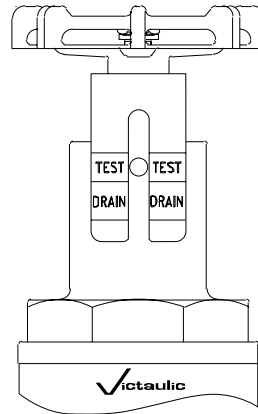

Figure 2
2. Open the valve to the “test” position by turning the handle counterclockwise until the yellow indicator pin is within the green “test” area, as shown in Figure 2. **DO NOT** go beyond this point.